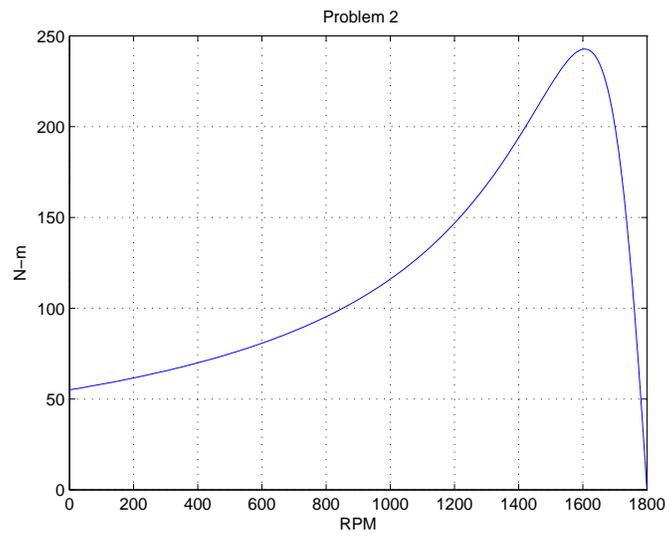

Figure 5: Induction Motor Torque vs. Speed
1. Torque vs. speed is plotted in Figure 5